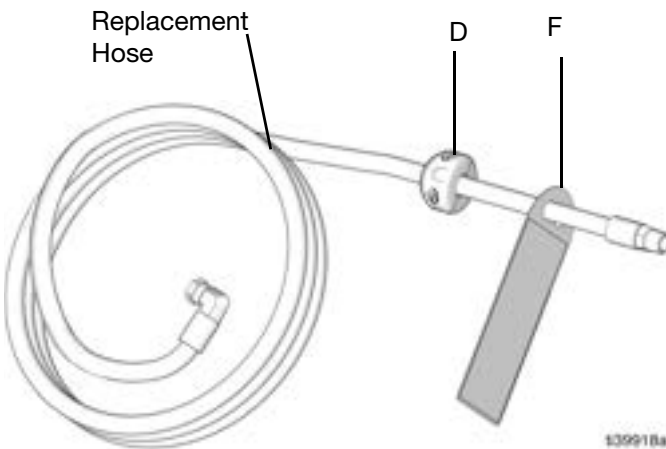

FIG. 15
7. Install the hose stop (D) to the end of the replacement hose. If the hose has a warning tag (F), the hose stop (D) should be installed on the same end as the warning tag (F) (FIG. 15).